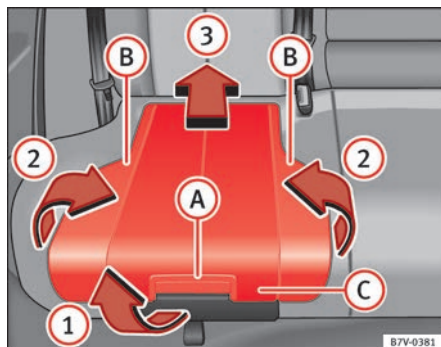

Fig. 29 Integrated child seats. lift up the cushion.
- Pull the unlock lever ⇒ fig. 29 **A** on the cushion in the direction of the arrow **1**.